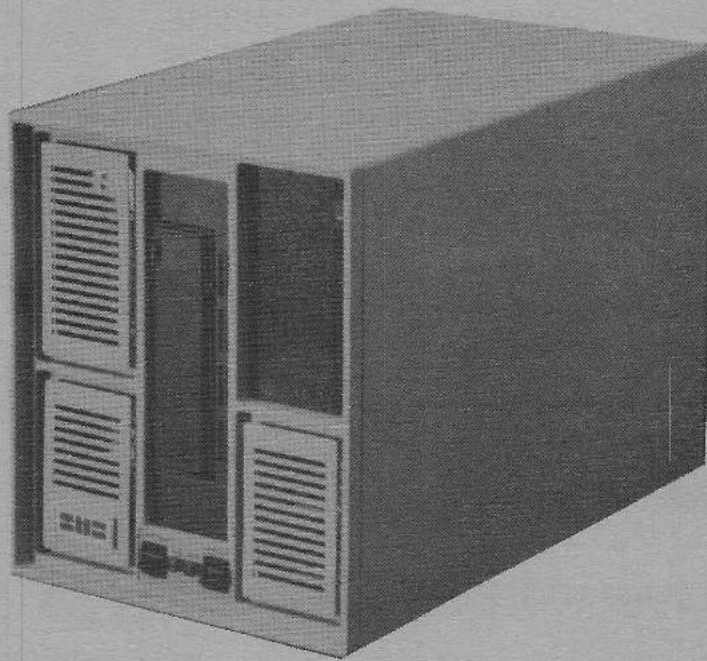

Fig. 1-1 SMS 1000 Model 30 Microcomputer System
GENERAL. The SMS 1000 Model 30 (Figure 1-1) is a single- or multiple-user microcomputer system based on the DEC LSI-11 Q-bus architecture. The basic system consists of (1) a five-slot Q-bus backplane in which user-selected CPU's, memory cards, RS-232 interface cards, and other modules can be installed; (2) a fixed-disk Winchester drive; (3) a choice among removable-media peripherals such as an optional 1/4" cartridge-type streaming tape drive (including its own controller) that permits file-oriented backup, an optional cartridge-type Winchester drive, an optional 8" floppy drive or an optional 5 1/4" floppy drive; (4) an SMS 0107 peripheral-controller board that interfaces with the selected disk devices; and (5) a 250 watt power supply for the complete Model 30 system.